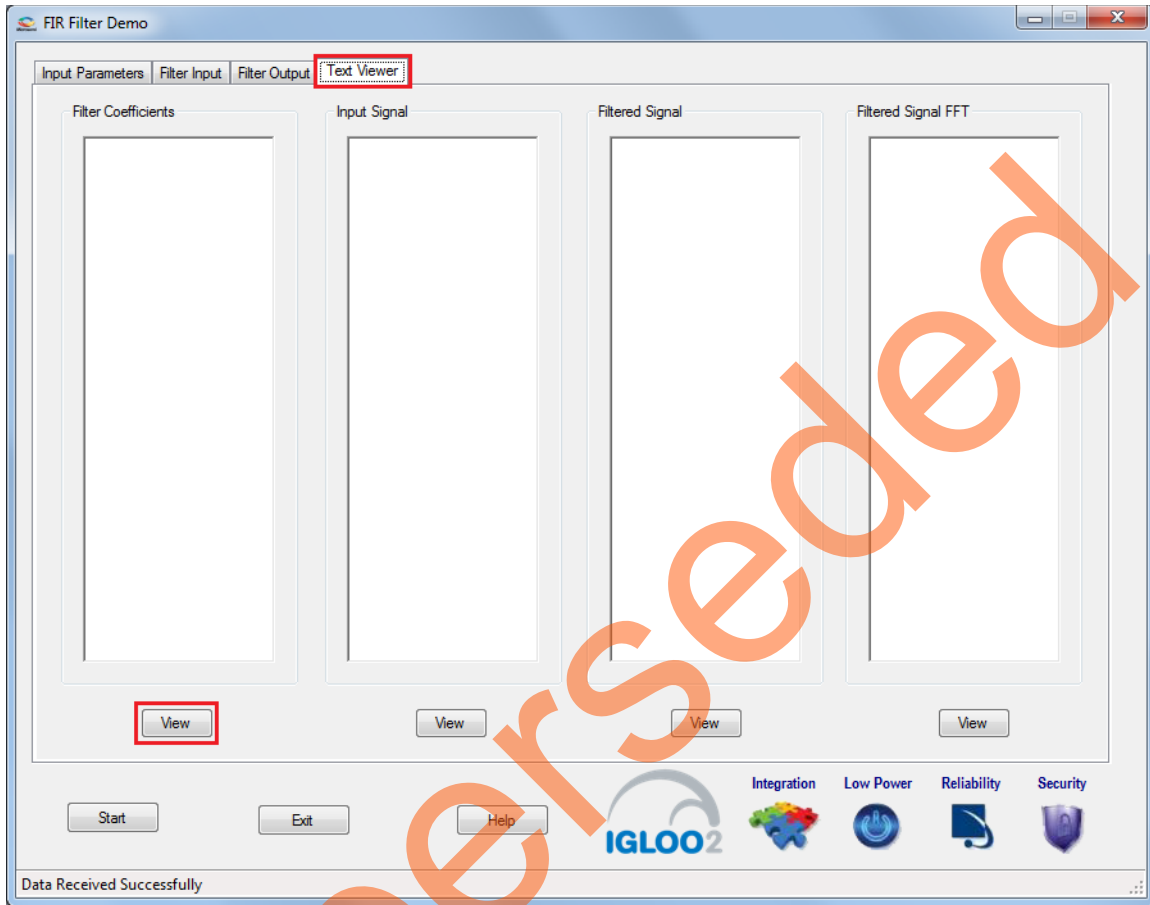

Figure 19 • Text Viewer
10. The filter coefficients, input signal, output signal, and FFT output data values can be viewed in the **Text viewer**. Click on the **Text Viewer** and click on the corresponding **View**, as shown in Figure 19.